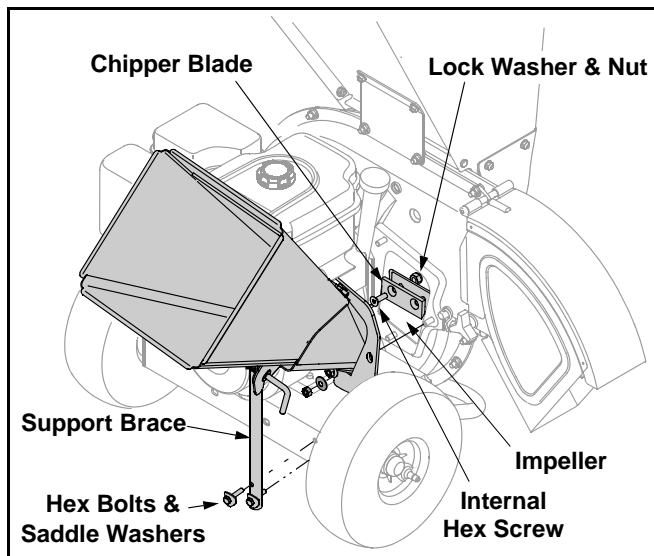

Figure 9
- Remove the chipper chute support brace from the frame by removing the two hex bolts and saddle washers which secure it. See Figure 9.
- Remove the chipper chute by removing three hex nuts and washers which secure it to the impeller housing. See Figure 9.
**NOTE:** Use a 3/16" hex key (Allen) wrench on the outside of the blade and a 1/2" box (or socket) wrench on the inside of the impeller. See Figure 9. Hold the Allen wrench stationary and rotate the box (or socket) wrench to loosen the nut.